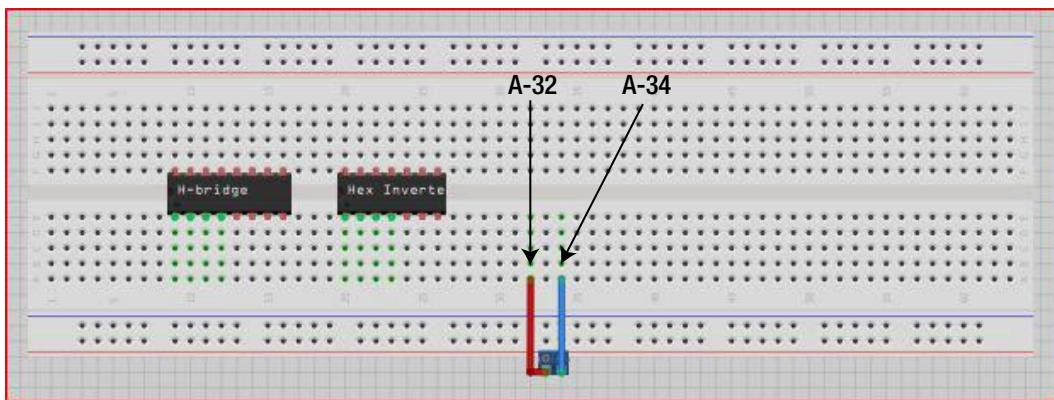

Figure 15-5. Attach the 2-position terminal block to the solderless breadboard
3. Next, attach the 9V connector to the blue two-position terminal block; tighten down on the screws to make certain the wires are held in good and tight. If possible, insert the red wire to the left of the black wire, as shown in Figure 15-5, before plugging the terminal block into the solderless breadboard so that its pins are inserted into A-32 and A-34.